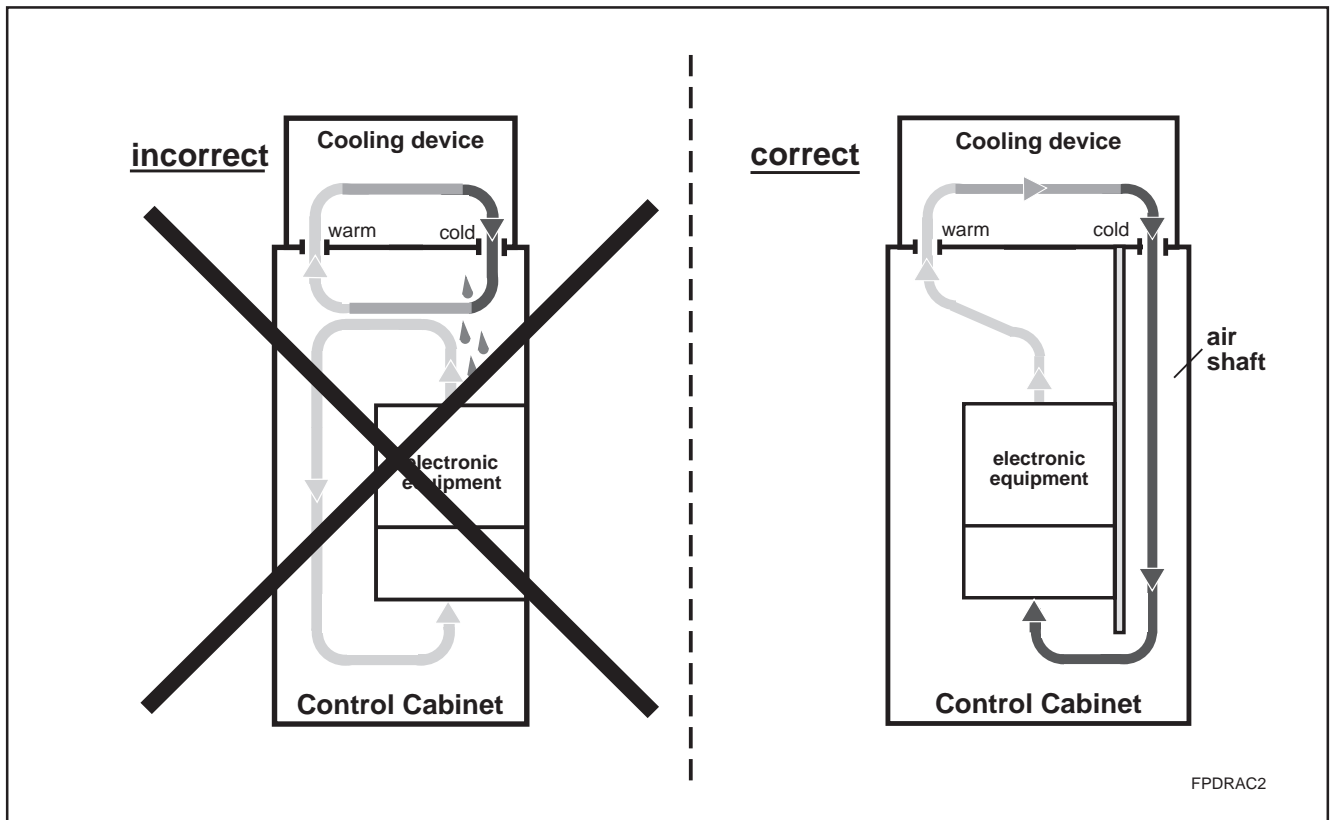

Fig. 2.11: Cooling device mounted on top of control cabinet
- The cooling units must always be arranged so that any condensation water formed cannot drip onto the installed controllers. Cooling units mounted on the top of the controllers necessitate a special control cabinet design (see Fig. 2.11)!